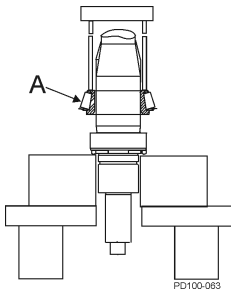

Figure 46 - Press Lower Cone onto Shaft
3. Lift the lower cone and roller assembly (Figure 46, item A) out of the bearing stack and place it on the shaft with the radius facing down. Press it onto the shaft until it is seated against the shaft shoulder. **Press only on the inner cone.**